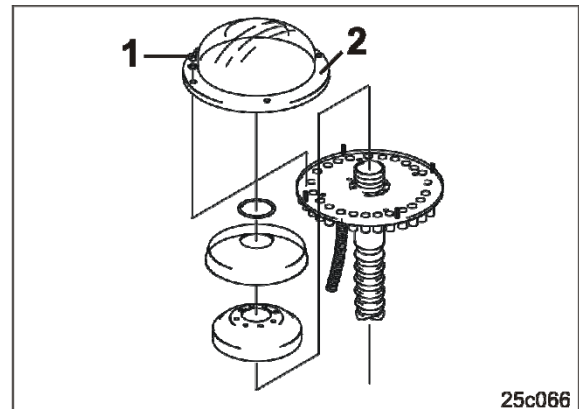

Fig. 234
7. Loosen the winged nuts (Fig. 234/1) and remove the clean plastic flap (Fig. 234/2) from the distributor head.
9. Install the plastic cap (Fig. 234/2).
10. Fix the plastic cap with winged nuts (Fig. 234/1).